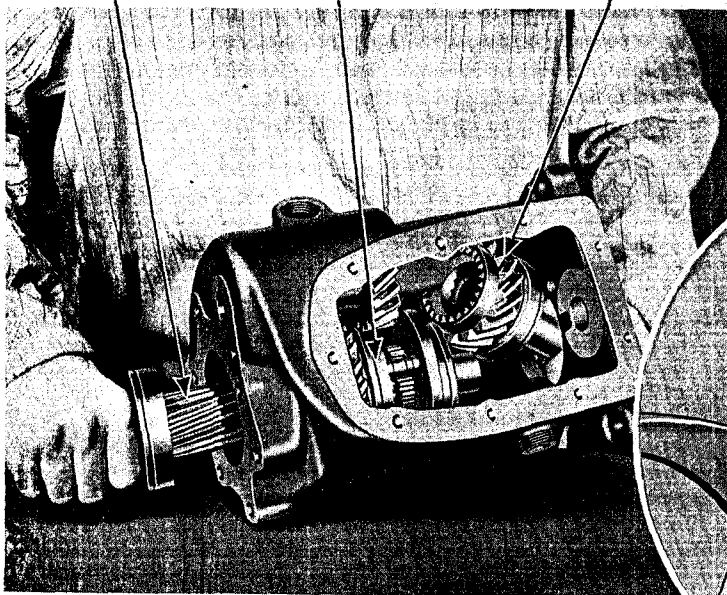

Fig. 23 Removal of Clutch Connection Gear and Bearing
16. Rotate the clutch connection gear around the main shaft and remove with bearing through the bottom of the case, as shown in Plate 56, Fig. 23.